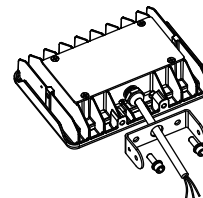

figure 2.1
- Step 2: Pass the wire through hole of bracket; (figure 2.1)